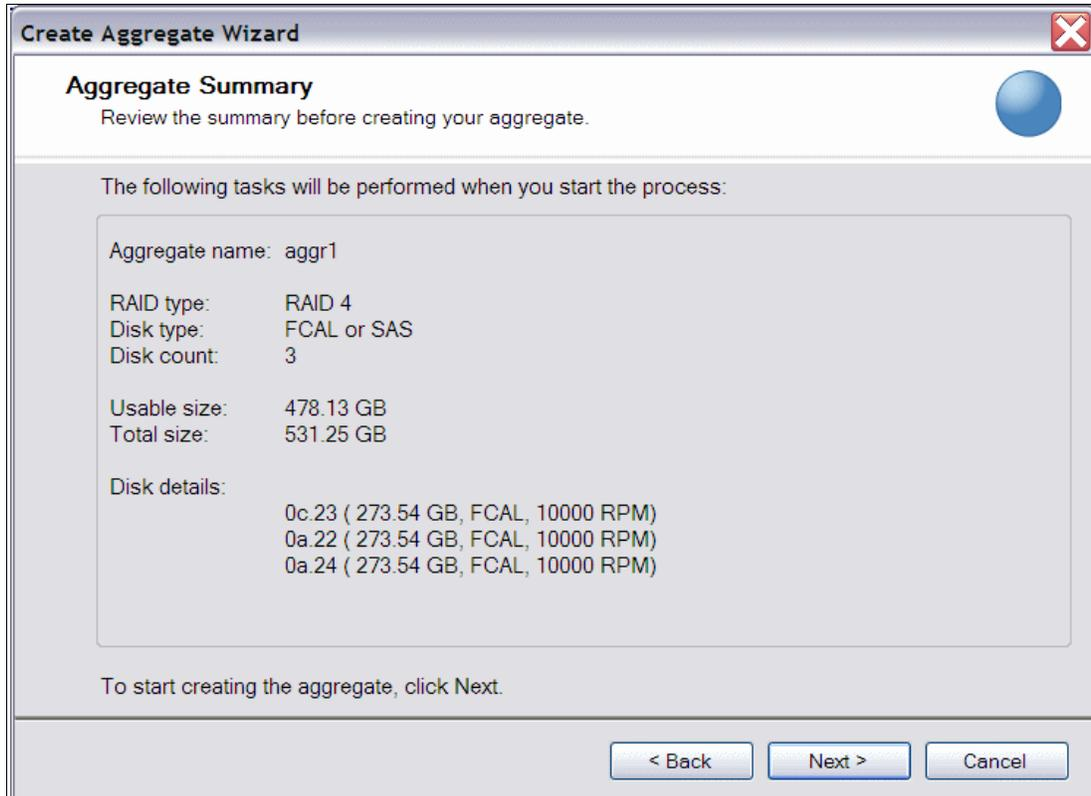
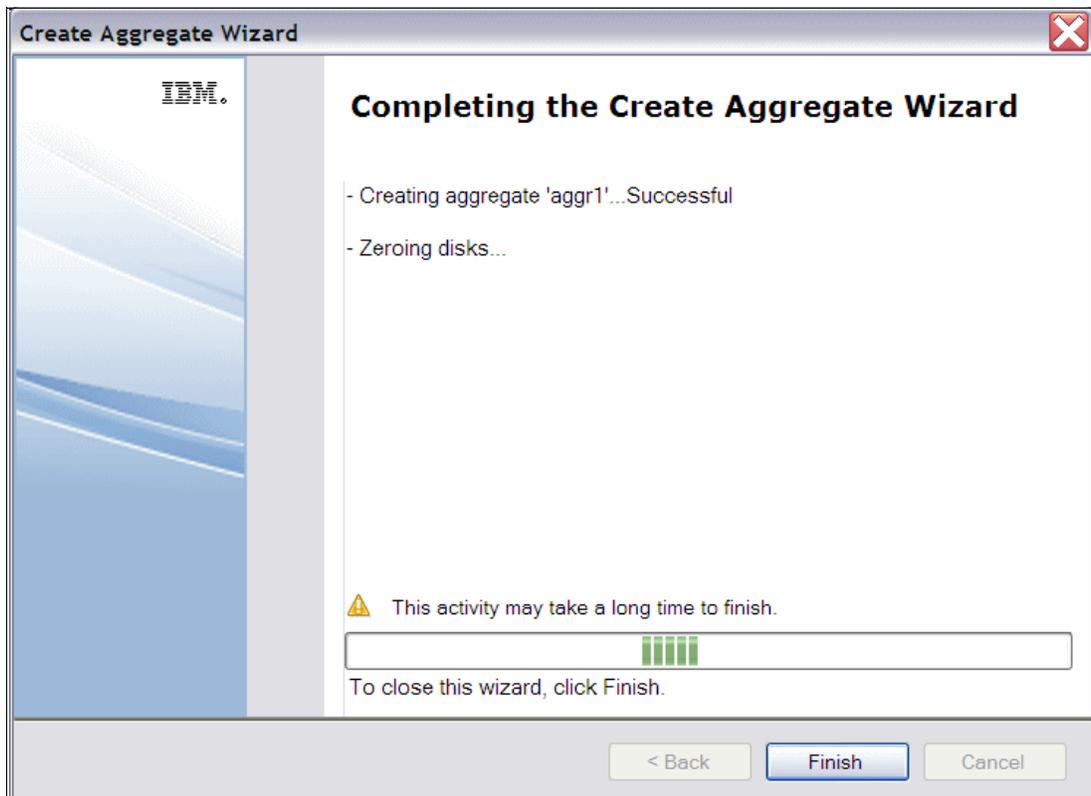

Figure 7-7 Aggregate Summary panel
Figure 7-8 Aggregate creation
4. The Aggregate Summary panel with all technical information is displayed (Figure 7-7 on page 207). Check that the values shown match your requirements, then click **Next** to begin the actual creation of the aggregate. Progress is indicated on the panel shown in Figure 7-8 on page 207.